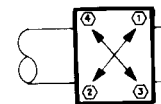

Figure 5
- Proceed to finish tightening clamp nuts as follows: (See Figure 5) Tighten each nut one turn at a time alternating in a diagonal pattern. Correct torque may be achieved by turning each nut 2-3 full turns past “snug” position or by tightening nuts to 10-12 foot-pounds, whichever comes first.